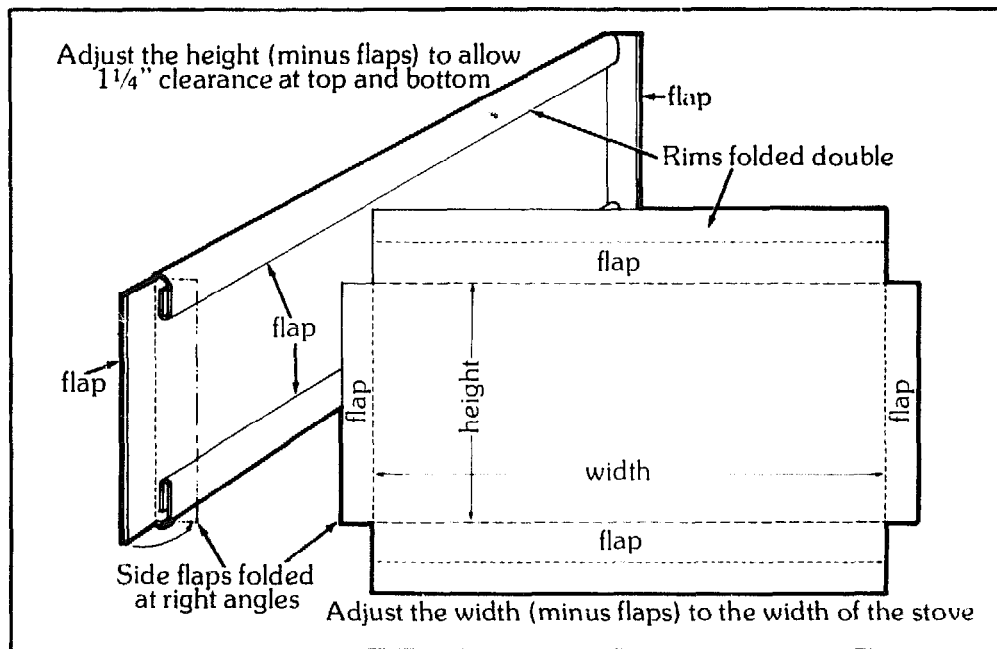

Figure 13.18 — Baffle pattern.
10. Make and install the baffle. Measure the width and depth of your stove at a point 12½ inches from the end opposite the stovepipe port. Cut a piece of metal 12 by 18 inches and fold it, as shown in Figure 13.18. Install in the position indicated in Figure